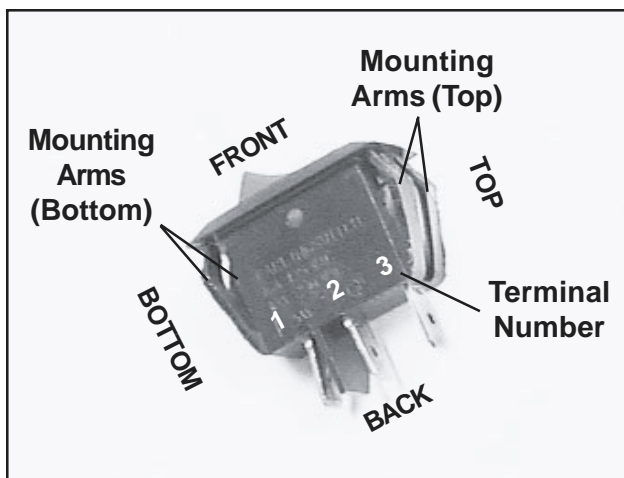

Figure 67. Blower On/Off Switch Removed from Panel
4. With a needle-nose pliers, pull the wire connectors off the three terminals on the back of the switch (Figure 67). Refer to the wiring diagram on *Page 31*. **Note:** Label the connectors before removing them from the switch.
5. Simultaneously, squeeze the two top mounting arms of the switch toward each other, and down toward the switch body (Figure 67), and push the top of the switch out of the panel. Then, do the same to the bottom mounting arms and push the bottom of the switch out. Remove the switch from the front panel.
1. Notice the terminal numbers 1, 2, and 3 on the body of the new switch (Figure 67). Making sure the switch is right-side up (Terminal 3 on top), push it through the switch opening in the front of the panel until it snaps into place.